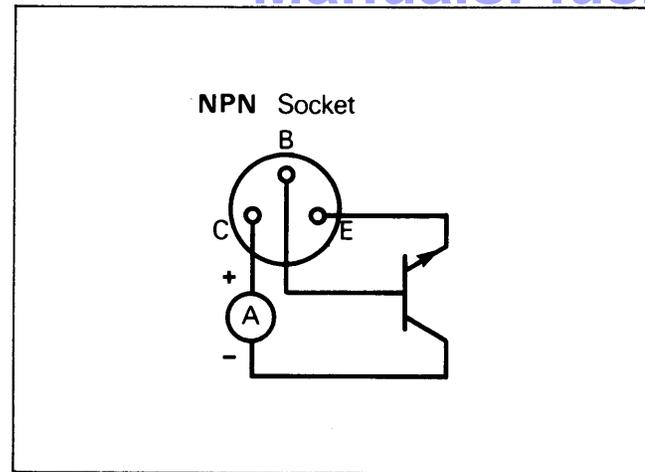

Fig. 12. Field calibration,  $f_r$  circuit.
- (b) Insert NPN Transistor into front panel transistor socket labeled NPN (16).
- (c) Place current meter in series with the collector lead. (See Fig. 12.)